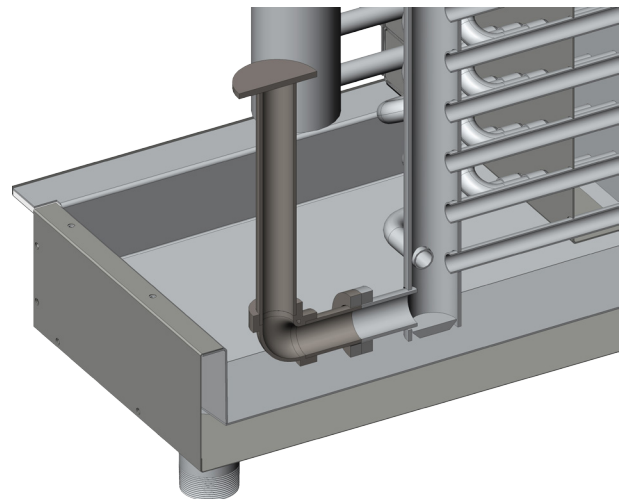

Figure 14
**Free Draining Liquid Connections:** With conventional coil designs, the liquid connection enters the liquid header in such a way that the bottom tubes in the coil stay flooded during defrost with condensed, liquid refrigerant. The result is slow, uneven (or incomplete) defrosting of the coil. Colmac Coil has solved this problem by extending the liquid header downward and placing the liquid connection below the level of the lowest tube in the coil. This design effectively traps all of the condensed liquid refrigerant and forces it out of the coil during defrost, resulting in a fast, complete and effective defrost of the entire coil. See Figure 14.